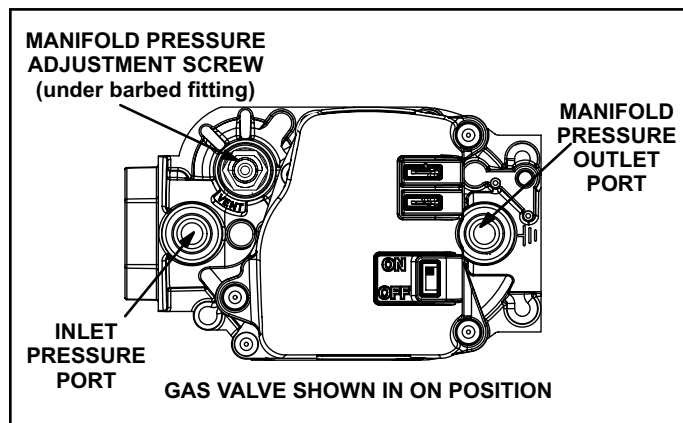

Figure 53. Gas Valve
Gas Valve Operation (Figure 53)
6. Move gas valve switch to OFF. See Figure 53.
8. Move gas valve switch to ON. See Figure 53.
When testing supply gas pressure, use the 1/8" N.P.T. plugged tap located on the gas valve to facilitate test gauge connection. See Figure 53. Check gas line pressure with unit firing at maximum rate. Low pressure may result in erratic operation or underfire. High pressure can result in permanent damage to gas valve or overfire.